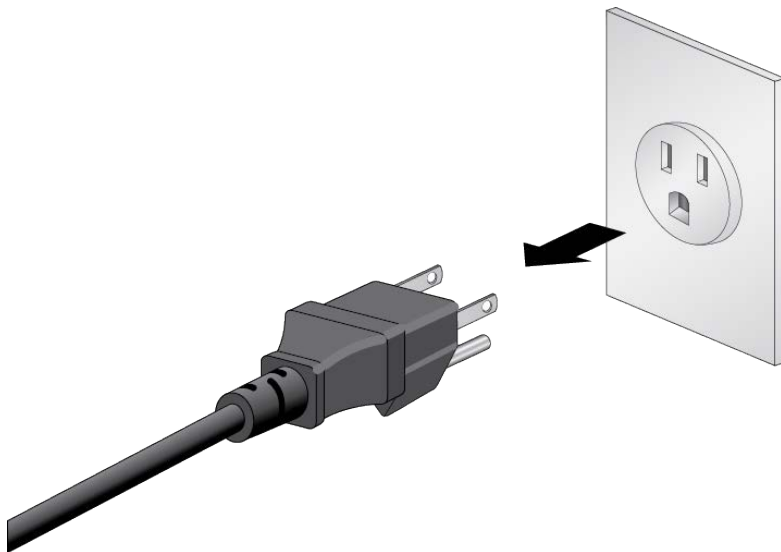

Figure 130. Disconnecting the AC Power Cord from the Power Source
1. Disconnect the AC power cord for the power supply from the AC power source. Refer to Figure 130.